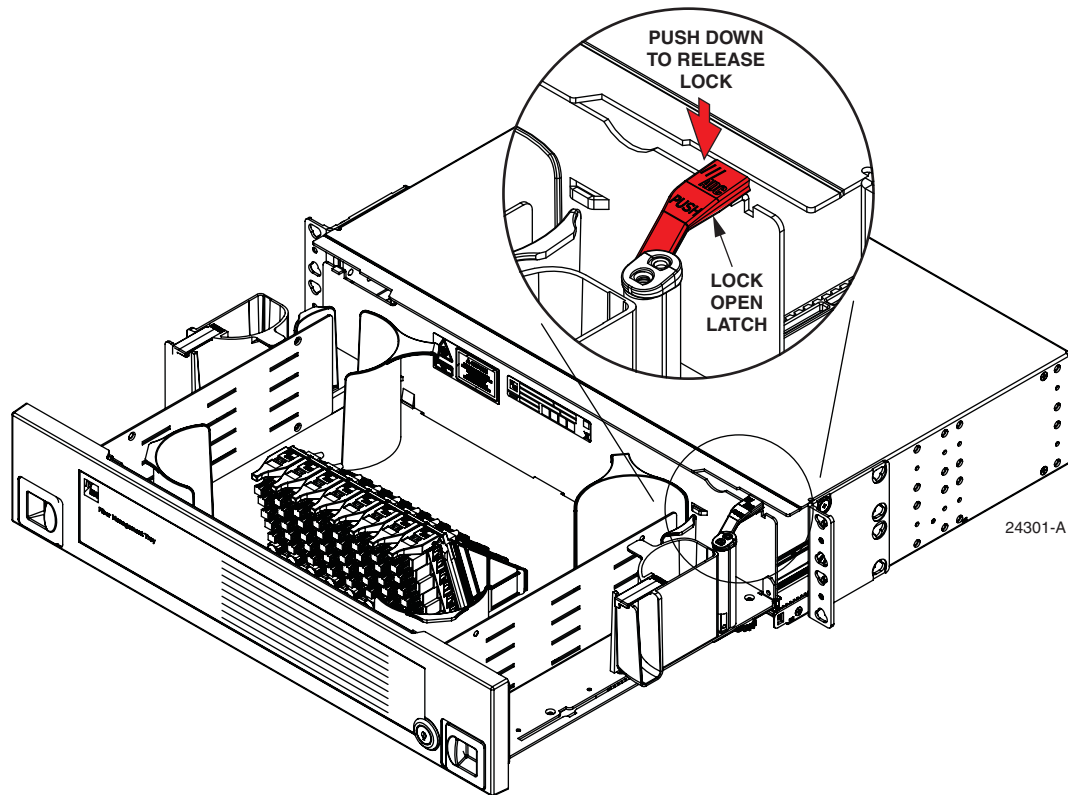

Figure 24. Tray Locked in Open Position
To open the 2RU FMT tray, slide the release tabs inward with both hands and pull the drawer straight out as far as it goes. While working in the tray, lock tray in position as shown in Figure 24. Press latch down to unlock tray and push closed.
3. Release the lock open latch (“unlocked position” shown in Figure 24 on page 27).
5. Latch tray shut using the lock open latch (“locked position” shown in Figure 24 on page 27).